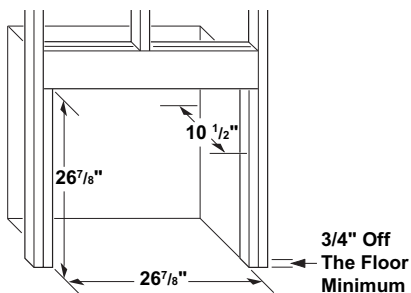
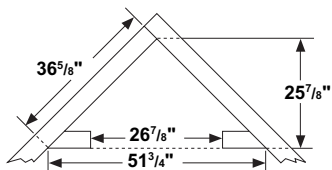

Figure 7 - Rough Opening for Installing in Wall
Figure 8 - Rough Opening for Installing in Corner
1. Frame in rough opening. Use dimensions shown in Figure 7, page 11 for the rough opening. If installing in a corner, use dimensions shown in Figure 8, page 11 for the rough opening. The height is 26 7/8" which is the same as the wall opening above.